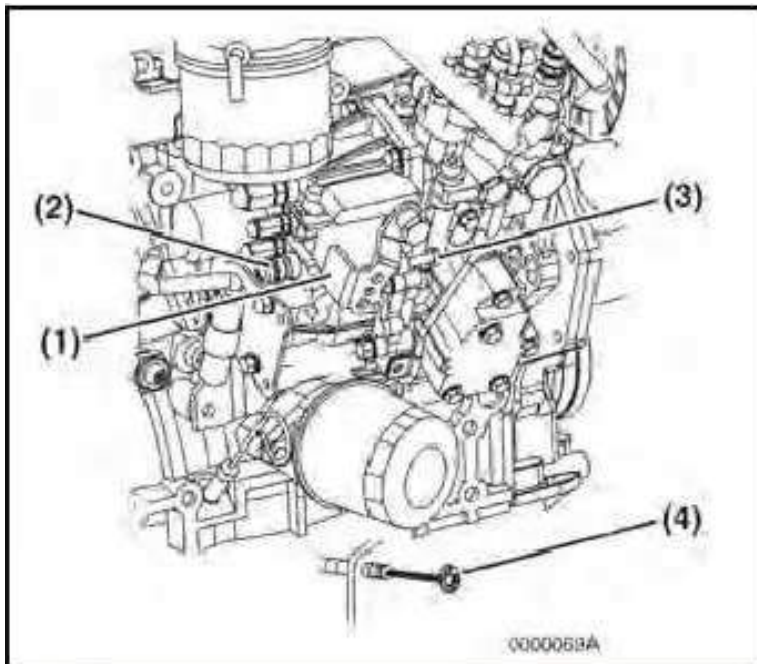

Figure 5-11
1. Check that the governor lever (**Figure 5-11, (1)**) makes uniform contact with the high idle (**Figure 5-11, (2)**) and low idle (**Figure 5-11, (3)**) speed limit screws when the engine speed control is in the high idle speed or low idle speed position.
loosen the throttle cable lock nut (**Figure 5-11, (4)**) and adjust the cable so the governor lever makes proper contact with the high / low idle speed limit screw